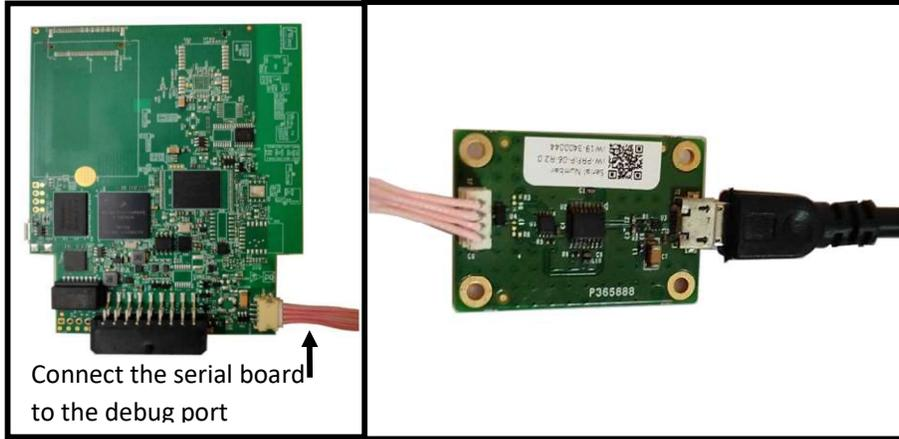

Figure 9: Procedure to connect Serial Debug Device
- Connect the Serial Debug Board to the Serial Debug port as shown in image (1) of Figure 9
- Connect the one end of the USB Cable to the Serial Debug Board as shown in image (2) of Figure 9
- Power on the Telematics control unit as described in Figure 9